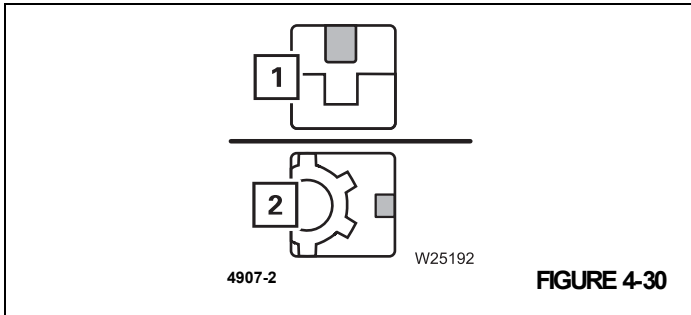

FIGURE 4-30
10. Switch off the swing gear if working at 0° or 180° positions – symbol (1), (Figure 4-30) red, refer to *Switching OFF the Swing Gear*, page 4-83.
11. Switch off houselock (if fitted) for other working positions – symbol (2) is red, refer to *Switching OFF the 360° Lock*, page 4-40.